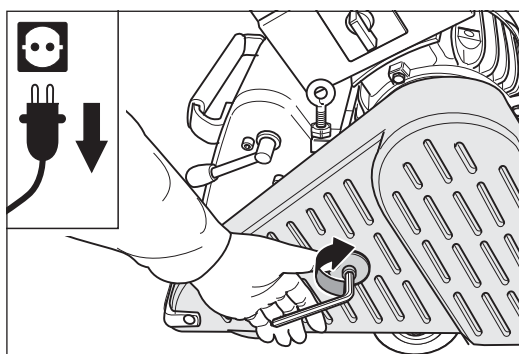

Fig. 116 Close the belt guard.
- 8 Close the belt guard (fig. 116).